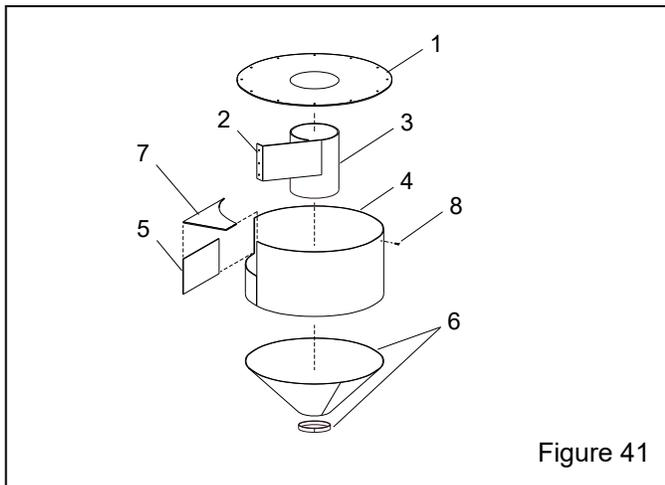

Figure 41
**Reclaimer Liners – Figure 41**